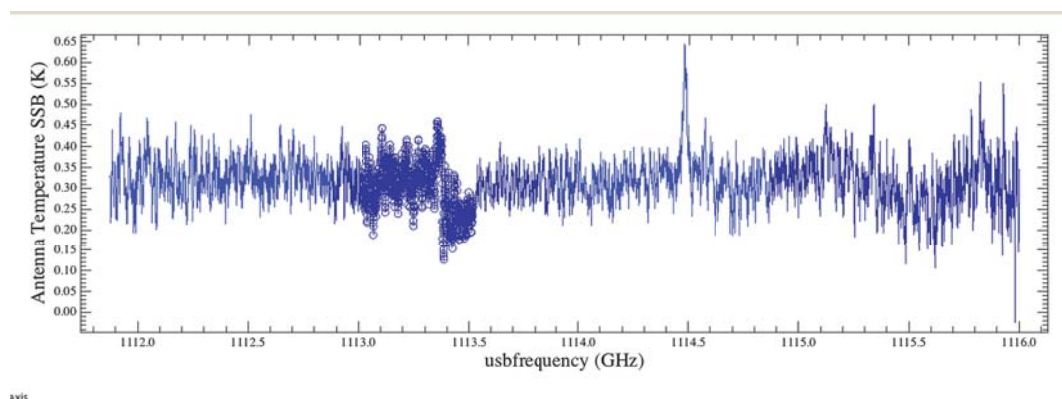

Figure 11.6. Results from flagging the selected region
- With a right-click, select *Point selection / flag*. A drop-down menu with an extended list of masks will appear. At the bottom of the list, you will also find the choice *manual*, which allows you to select a flag value not already present in the menu. If *manual* is selected, a small window requesting a flag numerical value will appear. The numerical value of the flag should be calculated as  $value=2^n$ , where  $n$  is the bit value. For example, for bit 7 you would enter 128 and for bit 29 the value is 536870912. Once the value is set, click *OK* to continue. Note that if you selected data points in a spectrum with more than one row (typical for Level 1 HIFI data), then you will be prompted for a flag value for each of N rows in the spectra (see Figure 11.6).